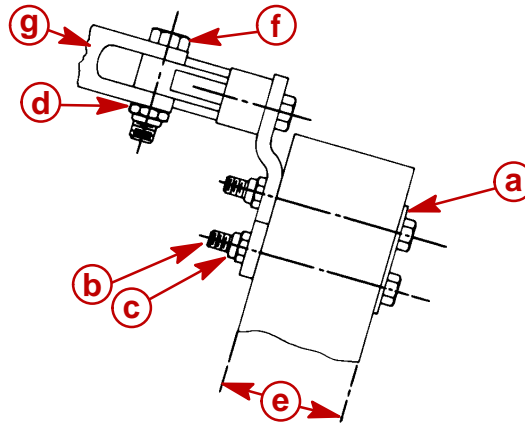

Figure 2
7. Use a marine-type sealer on three 5/16 in. x 3-1/4in. (7.9mm x 82.6mm) bolts. Secure attaching kit to transom, using transom backing plate, 3 bolts (with sealer) and 3 locknuts, installed as shown in Figure 2. Torque lock nuts to 10 lb. ft. (13.5 Nm).